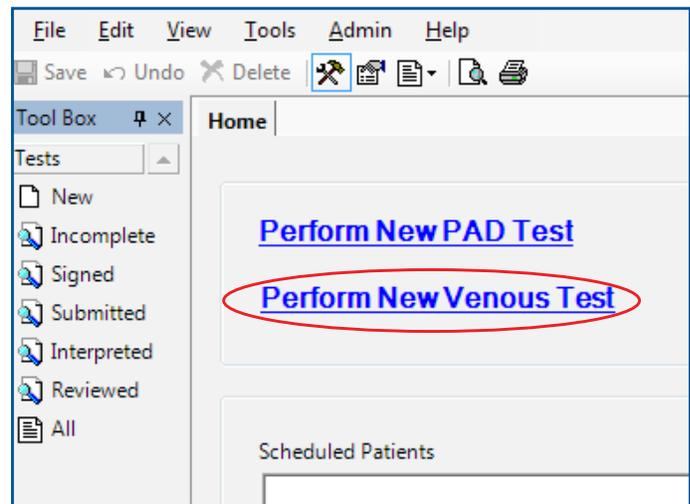

FIGURE 2.4 - Login Screen
3. Click “Perform New Venous Test” (Figure 2.4).